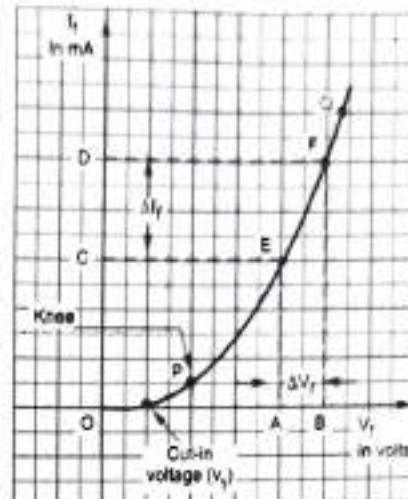

Fig. Q.22.1 Forward characteristics of a diode
- The forward characteristics of a diode is shown in the Fig. Q.22.1
- Region P to Q and onwards : When  $V_f$  exceeds  $V_c$  i.e. cut-in voltage, the depletion region becomes very thin and current  $I_f$  increases suddenly. This increase in the current is exponential as shown in the Fig. Q.22.1 by the region P to Q.